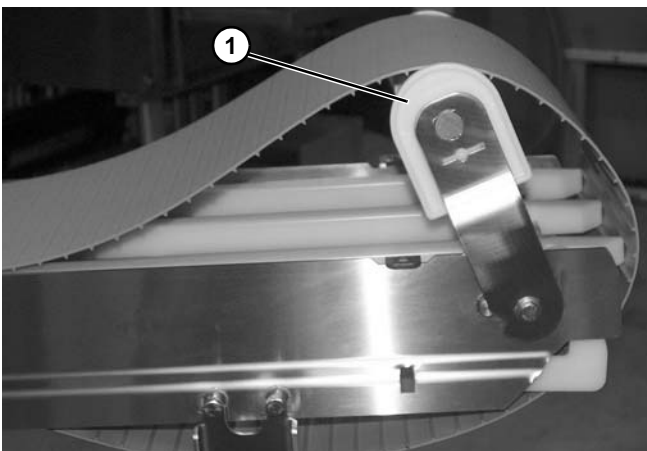

Figure 35
4. Rotate tip-up idler tail (Figure 35, item 1) upward as shown.